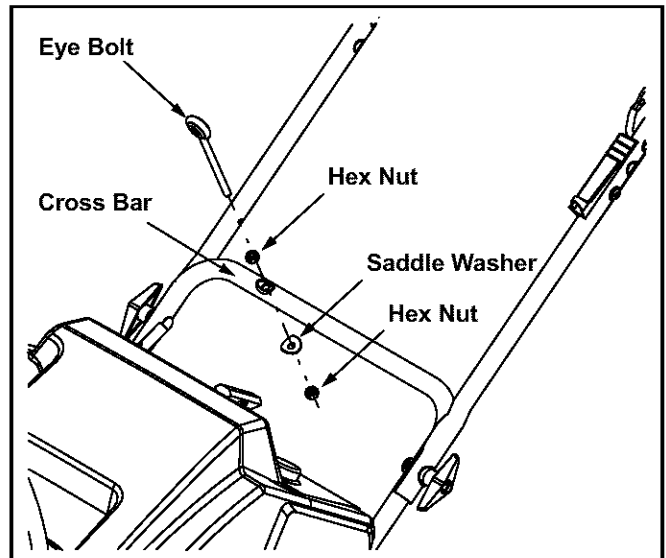

Figure 4
- Insert the eye bolt into the hole found in the lower handle's crossbar. See Figure 4.
- Fasten the eye bolt to the crossbar with the saddle washer (cupped side UP) and the other hex nut as illustrated in Figure 4. Do NOT tighten at this time.